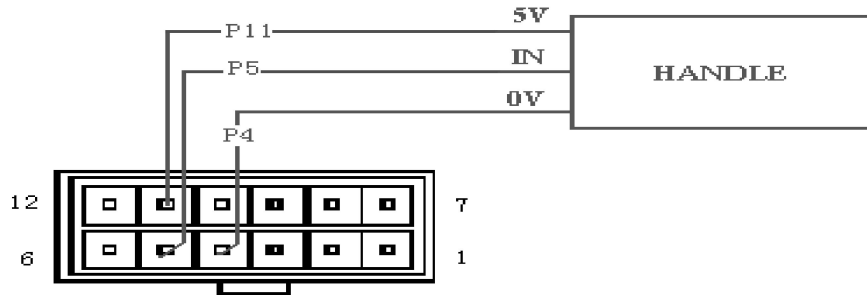

Figure 8
3. Wiring for the hall handle and the controller (please choose the hall handle type controller) refers to Figure 8.
Use speed regulating hall handle complying with Figure 8, and connect regulating signal isolator among terminals, P11, P4 and P5.